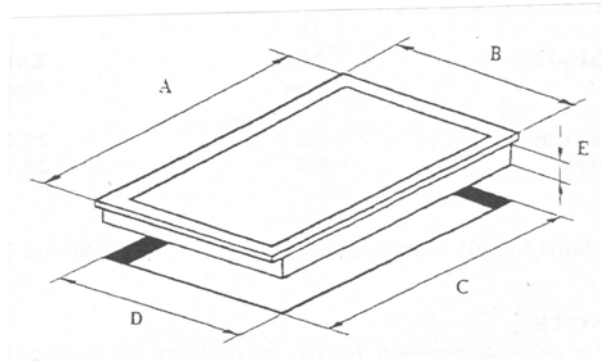

Fig. 2
5. If this appliance is installed above a built in oven that has a cooling fan, then follow the ventilation instructions in fig.2 on page 15 of these instructions.